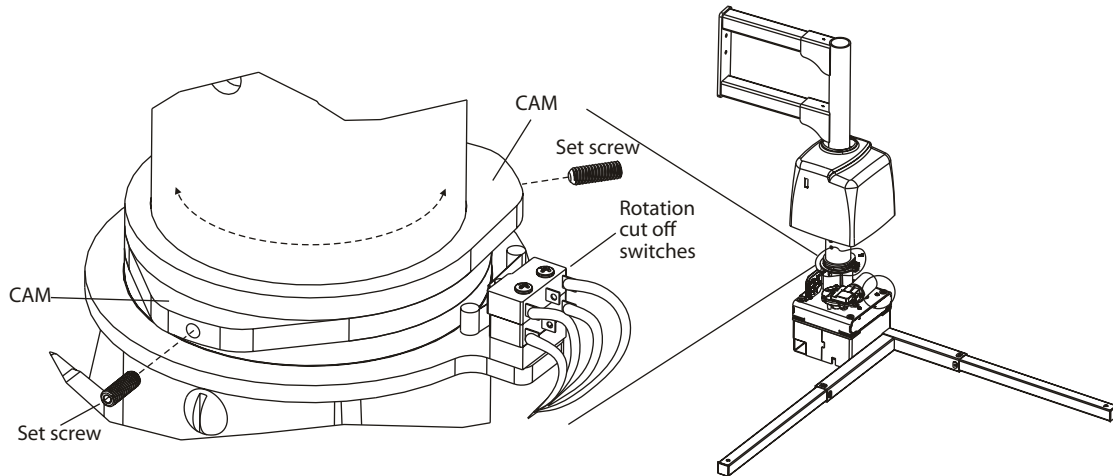

Figure 21-1
3. The amount of allowable rotation is determined by the cams as indicated. [Figure 21-1]. Loosen set screw and rotate as required.